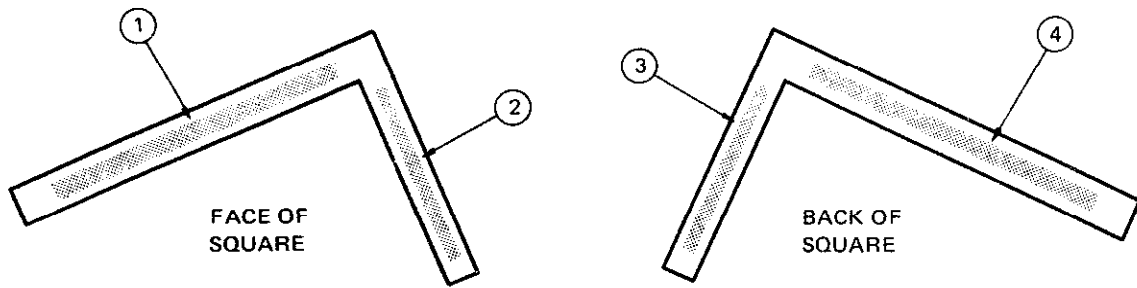

Fig. 3-19 Tables on a rafter and framing square
3. Identify the tables which are indicated by the circled numbers in figure 3-19.